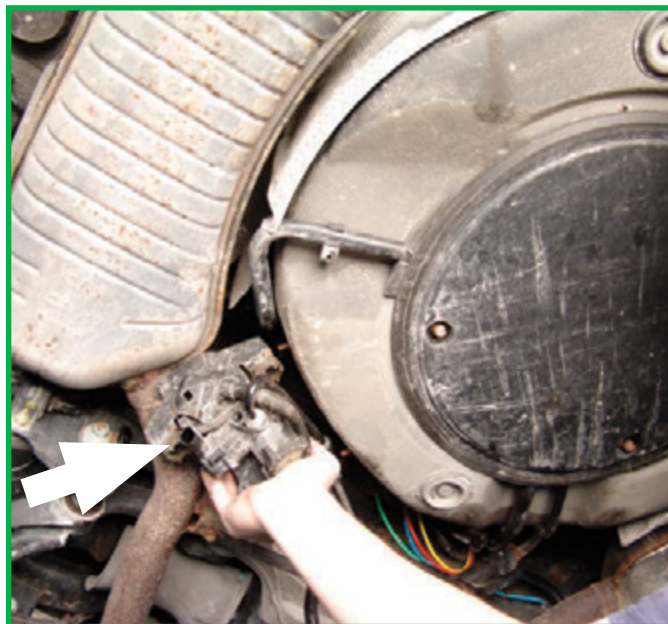

FIGURE 6
6. Remove the old compressor from the vehicle. (Figure 6)